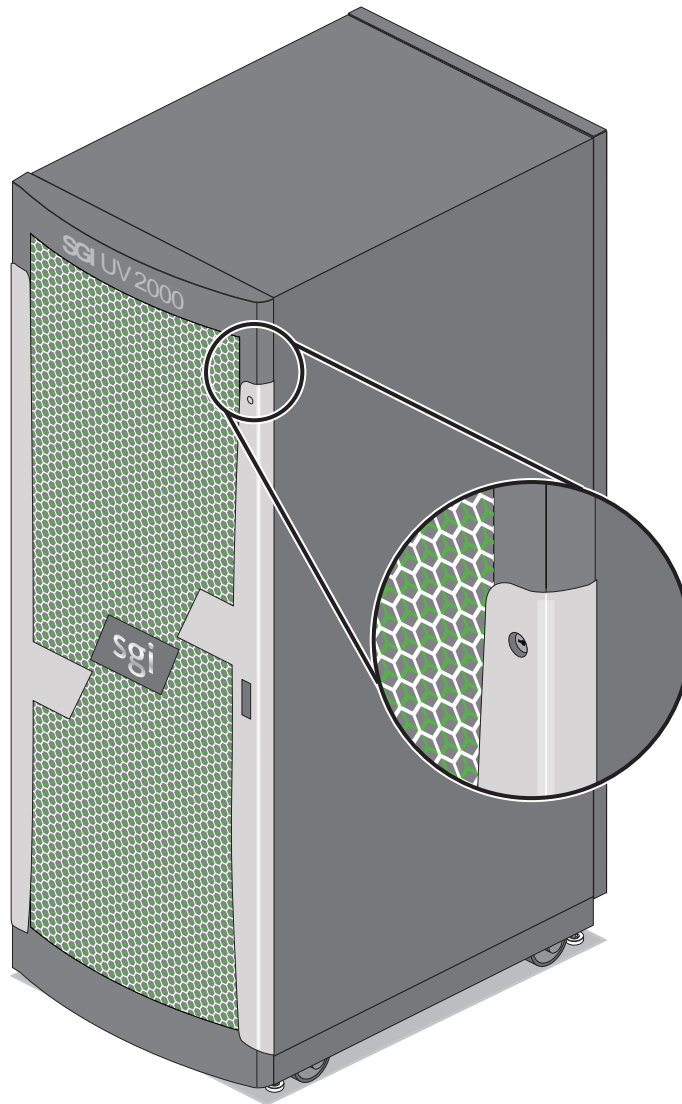

Figure 4-2 Front Lock on Tall (42U) Rack
At the time this document was published only the tall (42U) SGI UV 2000 rack (shown in Figure 4-2) was available from the SGI factory for use with the SGI UV 2000 systems. Other racks may be available to house the system IRUs, check with your SGI sales or service representative for information.
- **Front and rear door.** The front door is opened by grasping the outer end of the rectangular-shaped door piece and pulling outward. It uses a key lock for security purposes that should open all the front doors in a multi-rack system (see Figure 4-2 on page 56).